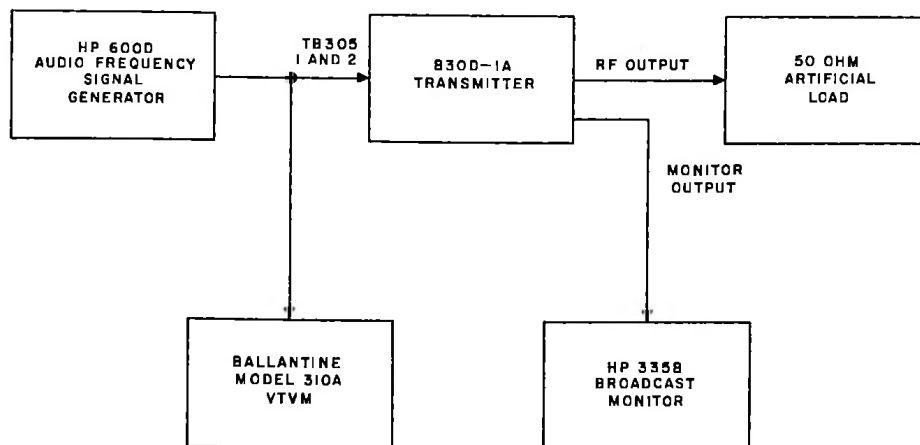

Figure 5-2. Audio Frequency Response Test Setup
a. Refer to figure 5-2. Connect an audio frequency signal generator, such as a Hewlett-Packard Model 600D, to terminals 1 and 2 of terminal board TB305. (Disconnect the station console audio input leads when making these measurements.) Connect a vacuum tube voltmeter, such as a Ballantine Model 310A, to the audio output terminals of the audio frequency generator. Connect a 50-ohm artificial load to the r-f output connector located on top of the transmitter cabinet. Turn on the transmitter.